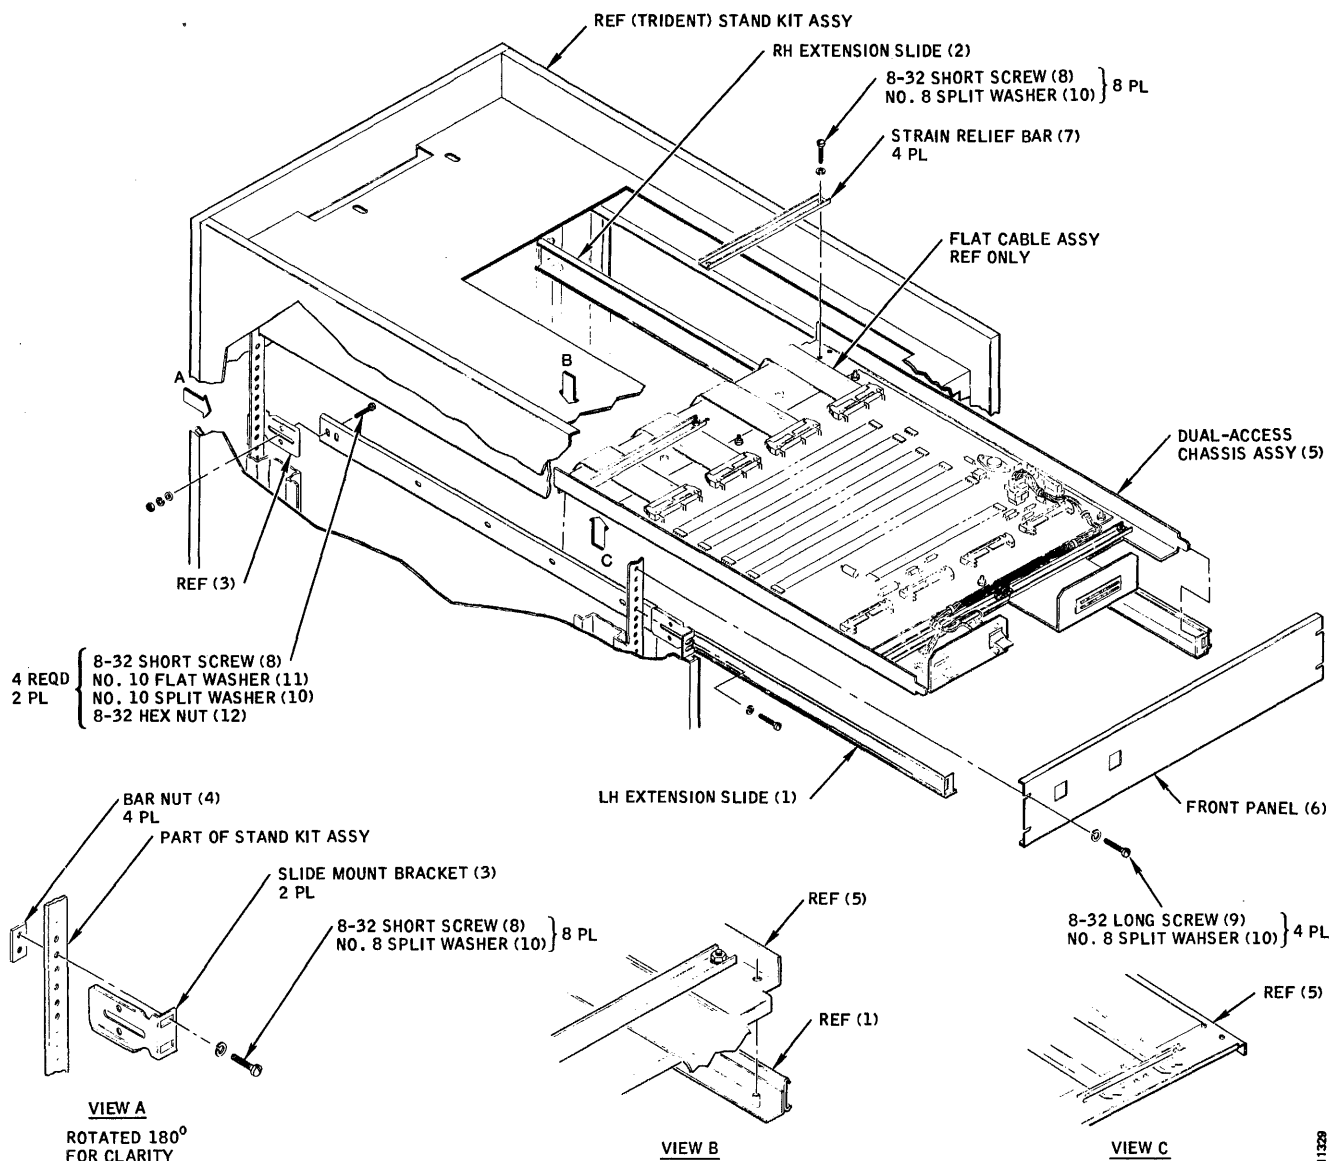

Figure B-1. Dual-Access Assembly Kit Installation
1. Carefully unpack all parts and check them for shortages against items and quantities listed in Table B-1. Refer to Figure B-1 for parts identification and installation configuration.
4. Install RH and LH Extension Slides (1 and 2) on the front and rear mounting rails of the Trident stand. See Figure B-1 for details. Note that two slide mount brackets (3) are required at the rear of the slides and that all slide mount brackets are installed with bar nuts (4) behind the rails.
5. Extend the members of both slides fully forward, and mount the dual-access chassis assembly (5) by tipping the two front tangs on the chassis assembly into the cutouts at the ends of the slide members. After engaging the two tangs, lower the rear end of the chassis to fit over the two pins on the slide members. See Figure B-1, View B.
12. After all cables have been connected in the system, dress the ribbon cables from the front connectors of the Dual-Access Assembly flat across the bottom of the chassis assembly, and install four strain-relief bars (7) (two on the top and two on the bottom) to hold the cables in place. See Figure B-1, Views B and C, for strain-relief details. Return to the last two steps under Physical Installation to complete the procedure.